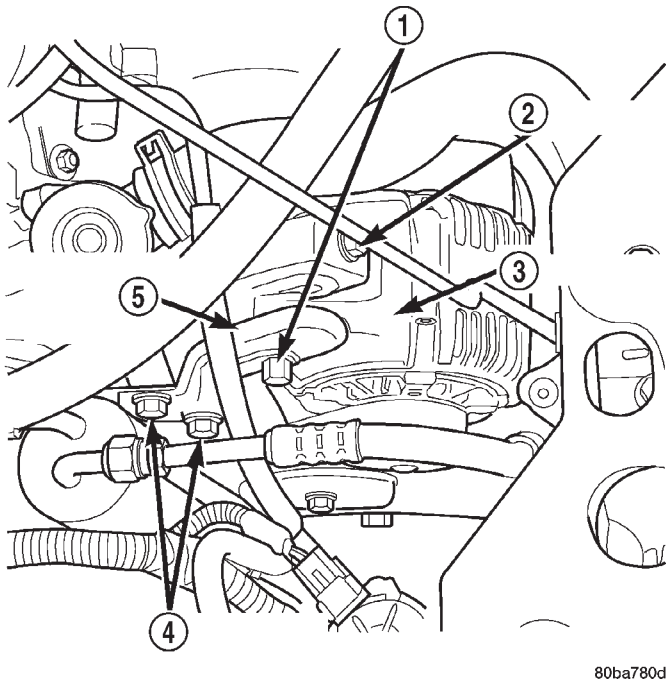

Fig. 2 Generator Position & Orientation — Front
(1) Install the generator in the vehicle.
(2) Install the generator pivot bolt and leave loose at this time
(3) Install the accessory drive belt. Making sure the belt is properly seated on all the accessory drive pulleys
(4) Install the generator lock nut and leave loose at this time (Fig. 2).
(5) Tighten the accessory drive belt tension bolt to set the proper belt tension (Fig. 2).
(6) Torque the generator pivot bolt to 54 N·m (40 ft. lbs.).